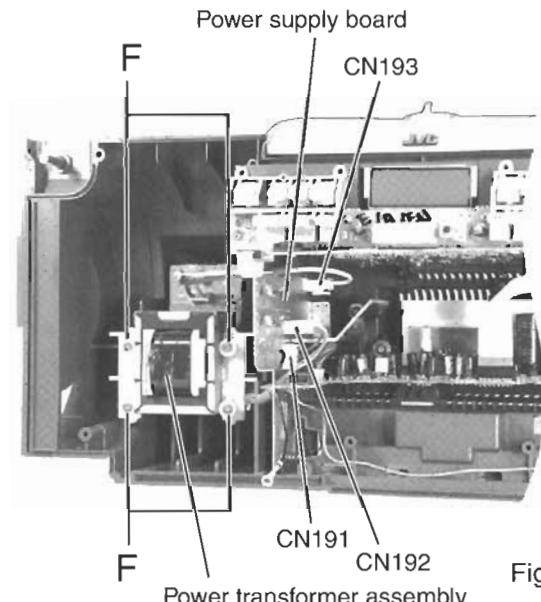

Fig.10
■ Remove the Power Transformer Assembly (See Fig.10)